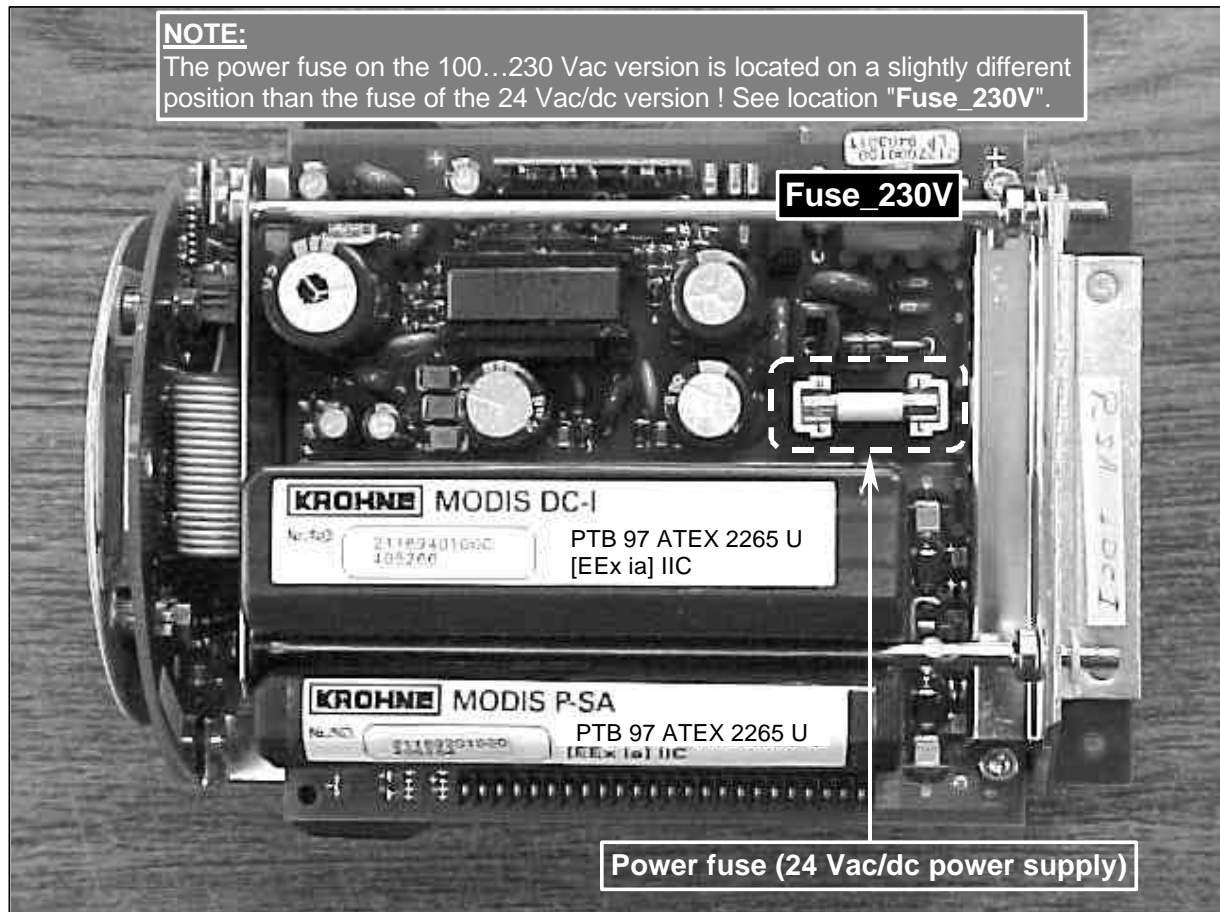

Figure 14: IFC 090i-Ex electronics unit (24 Vac/dc version is shown).
5. The defective power fuse (see figure 14 on the next page) can be replaced now. Use a fuse rated at **T1.25H250V** (part No. **5.06232.00.00**) for the 24 Vac/dc power supply and a fuse of **T1.6H250V** (part No. **5.07823.00.00**) for the 100...230 Vac power supply. Notice that the locations are slightly different (the 24 Vac/dc supply version is shown).